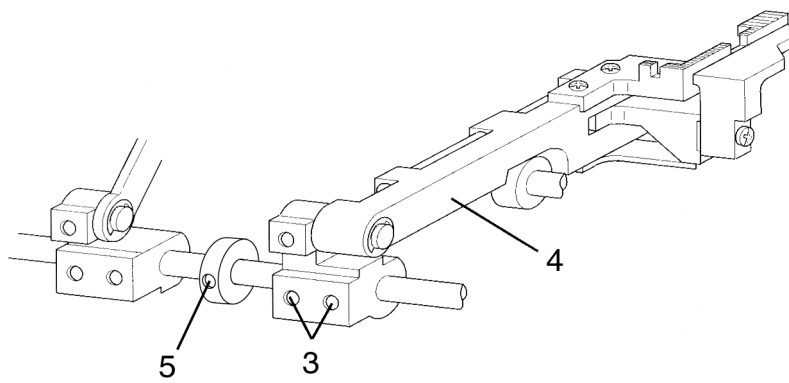

Fig. 6
- Slightly loosen both fastening screws 3 (fig. 6).